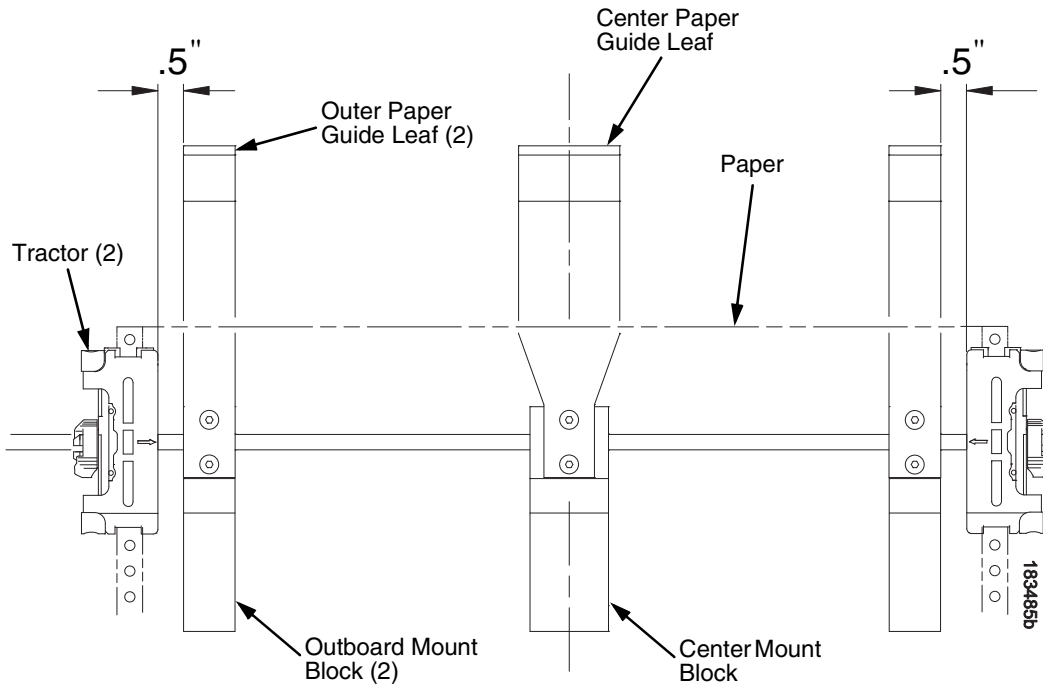

Figure 28. Adjusting Paper Guide Leaves
4. Slide the left outboard mount block so that the left outer paper guide leaf is .5 inches from the left tractor. (See Figure 28).